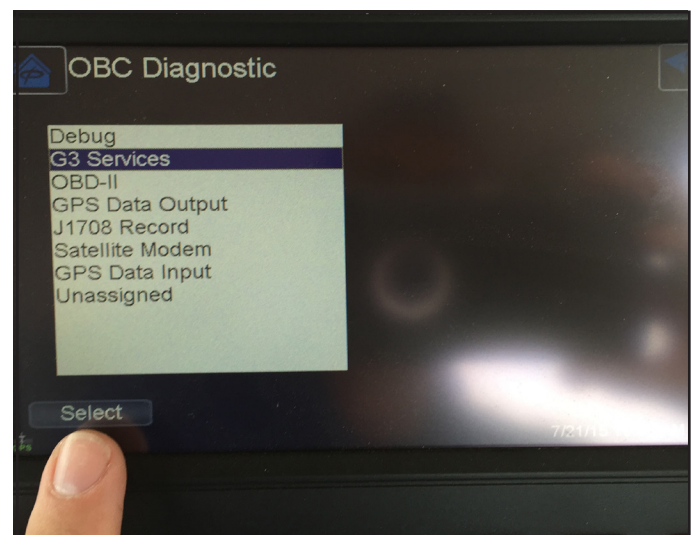

Figure 9 – G3 Services
9. From the displayed drop-down menu, *highlight G3 Services and press the Select icon. See Figure 9.*